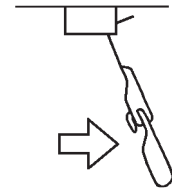

Fig. 19
6) Push the Bin Control Switch to the right into the “bin full” position. Hold the switch until the icemaker stops in 10 seconds. See Fig. 19.